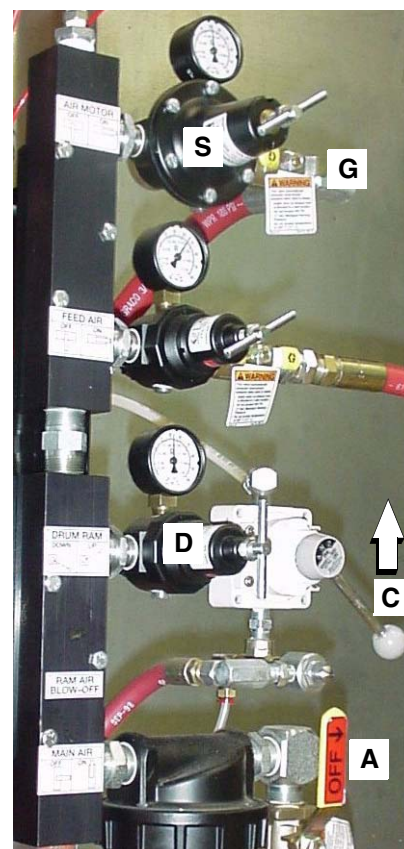
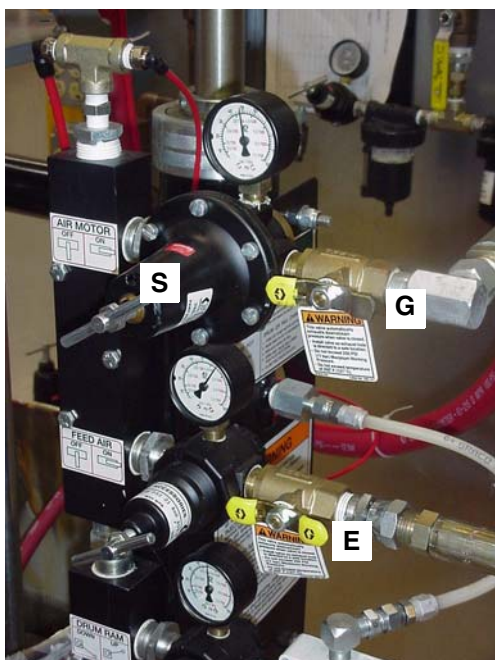

FIG. 9
FIG. 13
2. Open the main air supply shutoff valve (A), FIG. 9.
3. Place the ram lever (C) in the UP position.
2. Slowly open the main air motor shutoff valve (G), FIG. 9. Make sure the pump begins to cycle and material flows from the bleed valve (T) after several cycles of the pump, FIG. 12.
If the pump does not cycle, close the air shutoff valve (G), adjust the air motor regulator (S) up 5 psi (34 kPa, 0.3 bar) and repeat step 2, FIG. 9. Never adjust the regulator by more than 5 psi (34 kPa, 0.3 bar) increments, FIG. 13.
3. Operate the pump until it moves smoothly in both directions with no air popping or erratic movement, then close the air motor shutoff valve (G), FIG. 9.
5. Make sure the air motor and catalyst feed air shutoff valves (G and E) are closed, FIG. 13.
9. Open the air motor shutoff valve (G) and continue pumping until clean material, with no air pockets, dispenses from the resin hose into the waste container, then close the shutoff valve, FIG. 13.